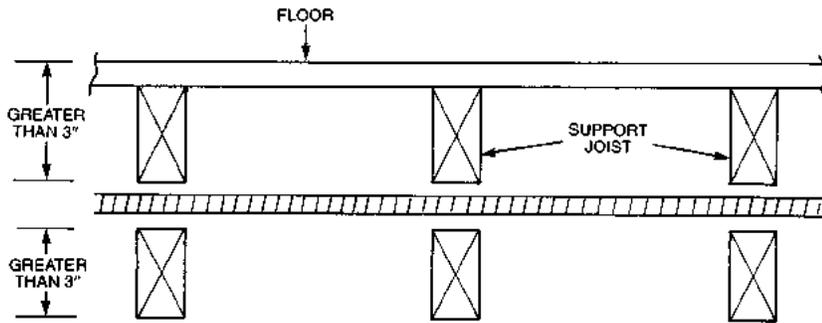

Figure 4-6
a. Where the tubing is supported more than 3 inches from any outside edge of a stud, joist, plate, etc. or wall surface. (Figure 4-6)